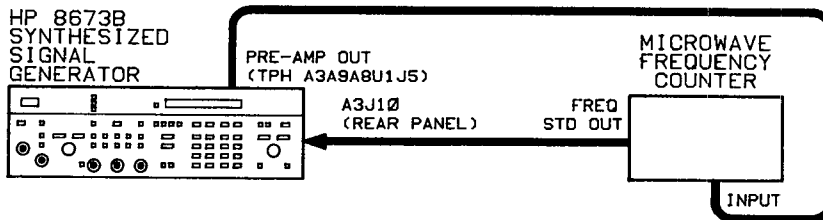

Figure 8-20. HP 8673B Baseband Frequency Test Setup
33. Disconnect the semi-rigid coax from the Pre-Amplifier Assembly output A3A9A8U1J5 (BD1 TPH), and connect the frequency counter in its place (frequency counter should be connected as in figure 8-20). Refer to BD1, top and bottom view drawings for test point locations.
36. With frequency counter standard output connected as shown in figure 8-20, measure the frequency at the following test points: